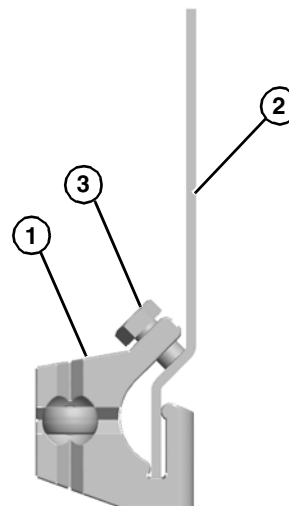

Figure 38
1. Clamp mounting block (Figure 38, item 1) to frame (Figure 38, item 2).
2. Tighten bolt to 20 in-lb (2 Nm) to secure (Figure 38, item 3).